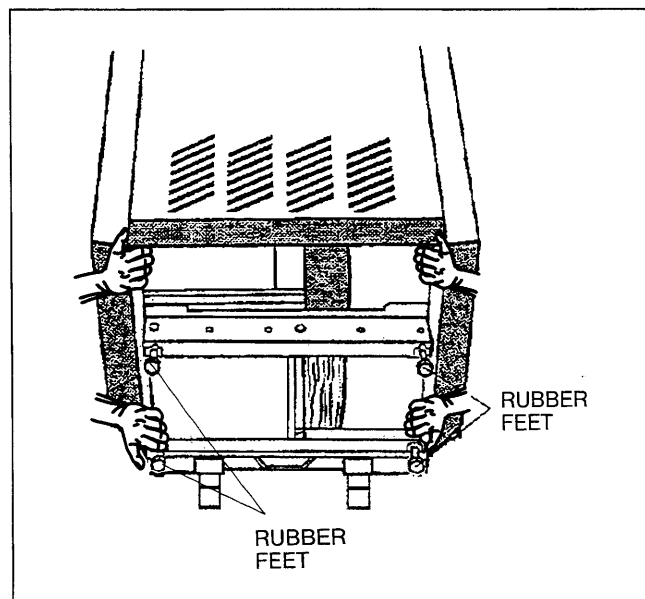

Fig. 4
- Screw the four rubber feet into the base leaving 0.25 – 1.0 inch extended from the base (Fig. 4).